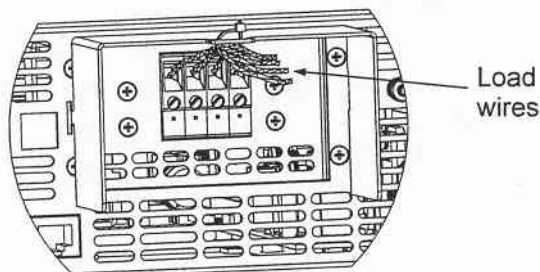

Fig.3-10: Protective shield and wires assembly
6. Tighten the wires to one of the shield sides using ty-wrap or equivalent. Refer to Fig.3-10. Ensure that the wire length inside the shield is long enough to provide proper strain relief.